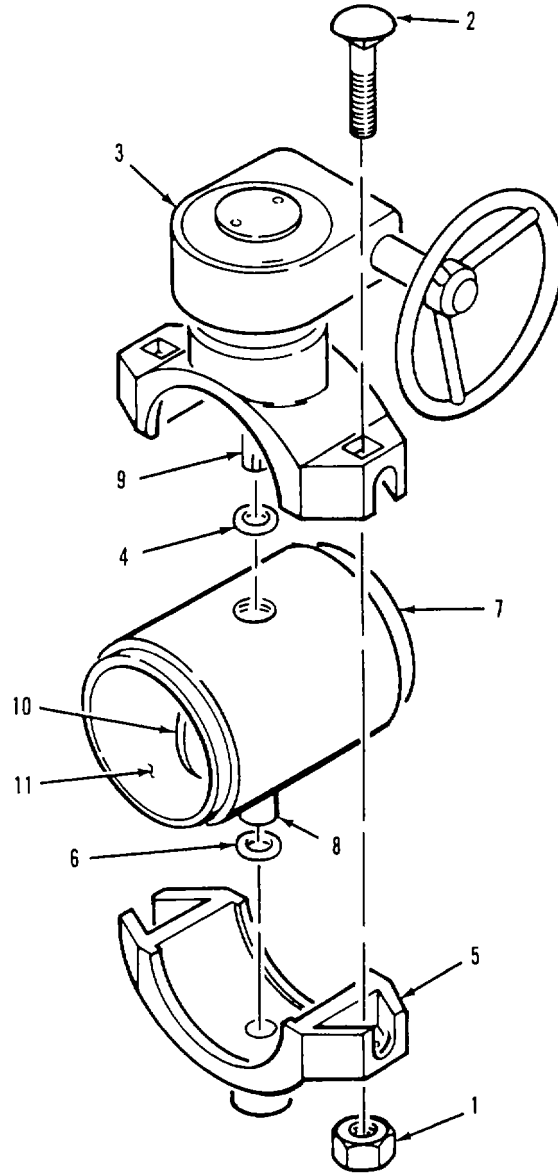

Figure 4-25. Butterfly Valve Disassembly.
- a. Disassembly. Refer to figure 4-25.
- (1) Remove two nuts (1) and bolts (2).
- (2) Separate upper housing (3) from barrel assembly (7).
- (3) Remove packing (4) from drive shaft (9).
- (4) Separate lower housing (5) from barrel assembly (7).
- (5) Remove packing (6) from shaft (8).